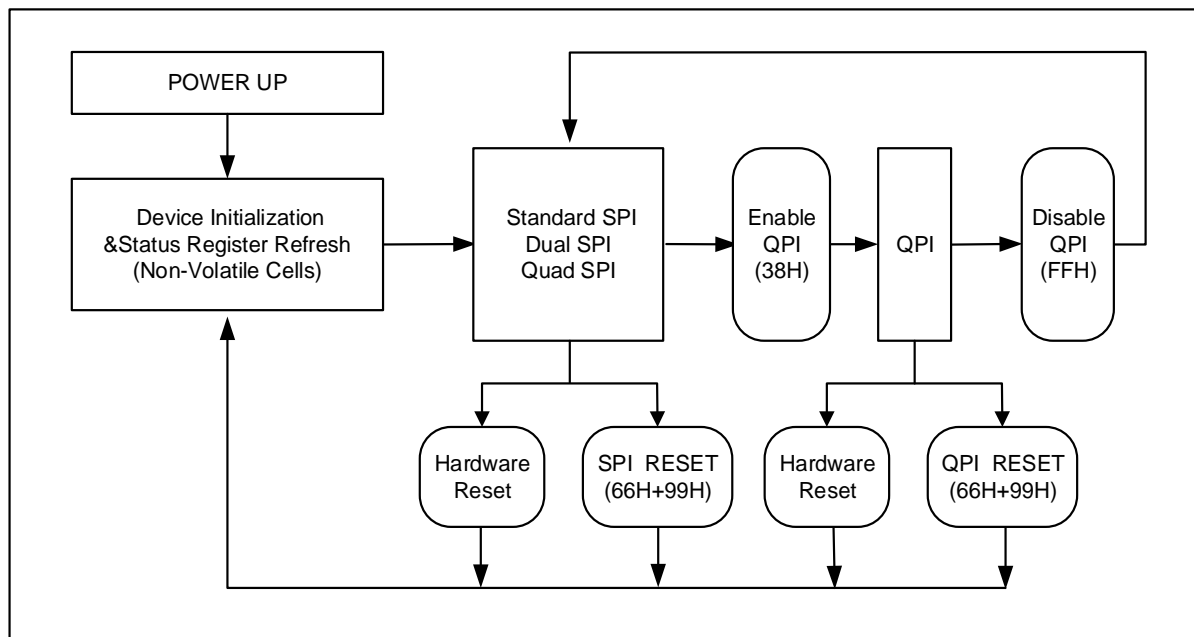

Figure 3. XM25LU128D Serial Flash Memory Operation Diagram
The XM25LU128D supports Quad Peripheral Interface (QPI) operations only when the device is switched from Standard/Dual/Quad SPI mode to QPI mode using the “Enter QPI (38h)” instruction. The typical SPI protocol requires that the byte-long instruction code being shifted into the device only via DI pin in eight serial clocks. The QPI mode utilizes all four IO pins to input the instruction code, thus only two serial clocks are required. This can significantly reduce the SPI instruction overhead and improve system performance in an XIP environment. Standard/Dual/Quad SPI mode and QPI mode are exclusive. Only one mode can be active at any given time. “Enter QPI (38h)” and “Exit QPI (FFh)” instructions are used to switch between these two modes. Upon power-up or after a software reset using “Reset (99h)” instruction, the default state of the device is Standard/Dual/Quad SPI mode. To enable QPI mode, the non-volatile Quad Enable bit (QE) in Status Register-2 is required to be set. When using QPI instructions, the DI and DO pins become bidirectional IO0 and IO1, and the /WP and /HOLD pins become IO2 and IO3 respectively. See Figure 3 for the device operation modes.